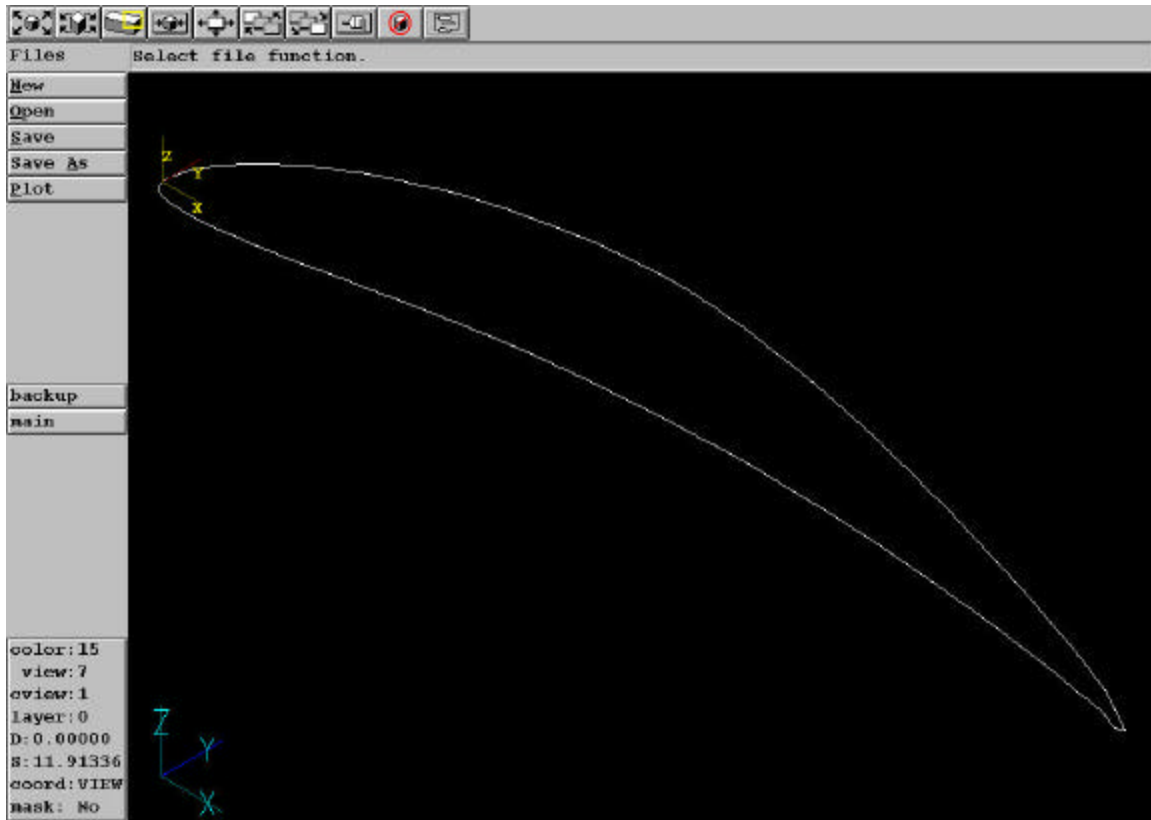

Figure 31: Airfoil input for Turbine
- 5.) Change the VIEW to 7.) Isometric, the CVIEW to 1.) Top, and the COORD to VIEW. The airfoil should look as it does in figure 31.